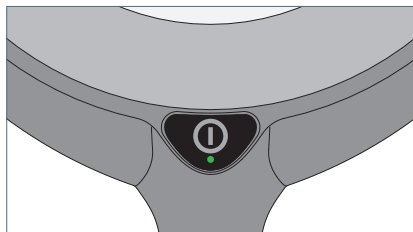

Fig. 9: Switch.
- Press the switch, see Fig. 9.
- Press the switch and keep it depressed, see Fig. 9.
- Press the switch twice in quick succession, see Fig. 9.